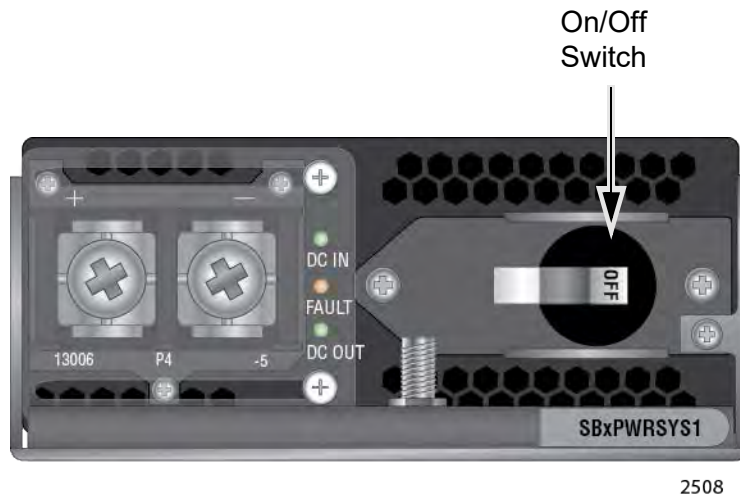

Figure 65. On/Off Switch on the AT-SBxPWRSYS1 DC Power Supply
4. Verify that the On/Off switch on the power supply is in the Off position. Refer to Figure 65 on page 141.